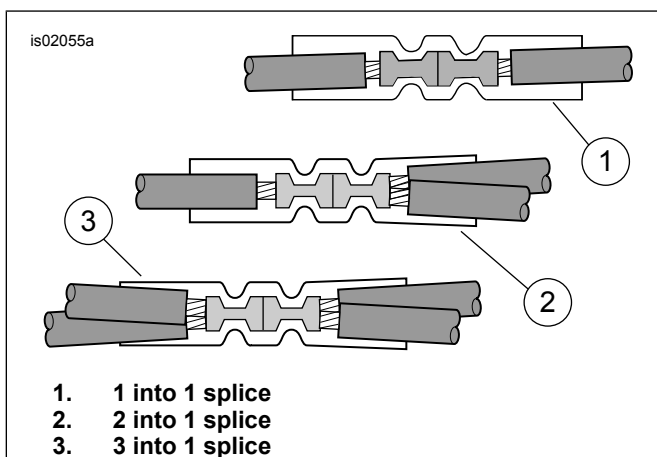
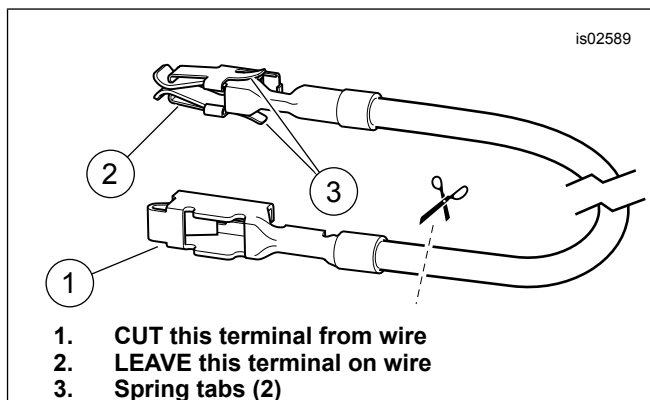
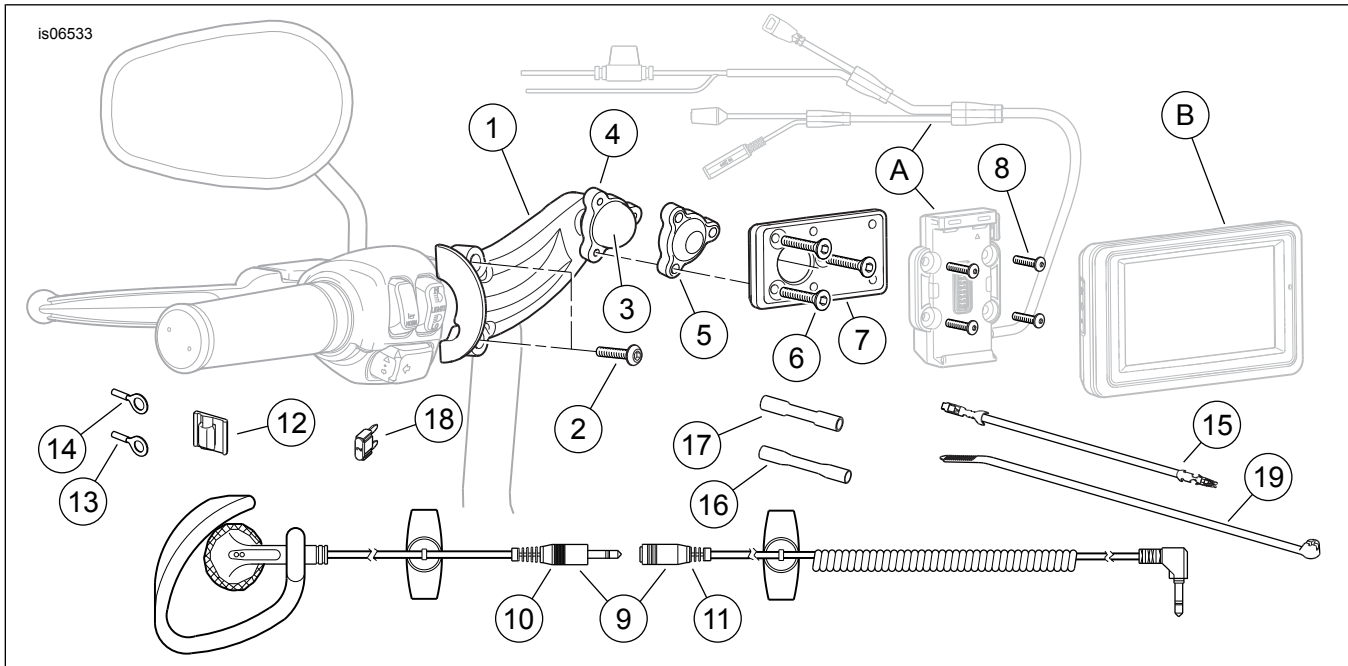

Figure 6. Splice Configurations
Figure 7. Fuse Block Adapter Wire (Dyna and Softail)
Figure 16. Service Parts, Road Tech Zumo 660 and Zumo 665 GPS Handlebar Mount Kit
4. See Figure 16. Obtain a sealed splice connector (3) from the kit. See Figure 6, the 2 into 1 splice configuration. Splice the Zumo wire harness power lead to the main harness orange/white wires per the instructions in the service manual appendix.
3. See Figure 16. Obtain the orange/white fuse block adapter wire (15) from the kit. Note the terminal on each end (see Figure 7). Only the terminal with the spring tabs will fit into this fuse block. Carefully cut the unused terminal from the wire and discard it.
6. See Figure 16. Obtain the blue sealed splice connector (17) from the kit. See Figure 6, the 1 into 1 splice configuration. Splice the Zumo wire harness power lead to the adapter wire per the instructions in the service manual appendix.
3. See Figure 16. Obtain the blue sealed splice connector (17) from the kit. See Figure 6, the 2 into 1 splice configuration. Splice the Zumo wire harness power lead to the cut orange/white wires per the instructions in the service manual appendix.
7. See Figure 16. Install the 2A fuse (18) from the kit into the "P&A IGN" fuse cavity to complete the circuit.
3. See Figure 16. Obtain the blue sealed splice connector (17) from the kit. See Figure 6, the 2 into 1 splice configuration. Splice the Zumo wire harness power lead to the main harness orange/white wires per the instructions in the service manual appendix.
6. See Figure 16. Cut the excess length from the orange/white Zumo harness wire. Using the blue sealed splice connector (17) from the kit, splice that wire to the adapter wire installed in Step 4.
7. Install the 2A fuse (18) from the kit into the fuse cavity marked "P&A IGN", "2A MAX" to complete the circuit.
- See Figure 16. Cut the excess length from the orange/white Zumo harness wire. Using the blue sealed splice connector (19) from the kit, splice that wire to the adapter wire installed in Step 4.
- Install the 2A fuse (20) from the kit into fuse cavity 1A-1B (4) to complete the circuit.
- See Figure 16. Obtain the blue sealed splice connector (17) from the kit. See Figure 6, the 2 into 1 splice configuration. Splice the Zumo wire harness power lead to the main harness orange/white wires per the instructions in the service manual appendix.
- Install the 2A fuse (18) from the kit into the fuse cavity to complete the circuit.